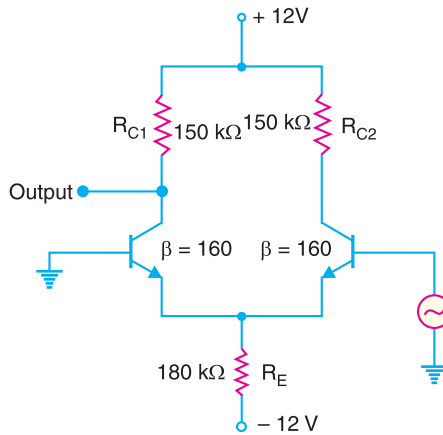

Fig. 25.100
- For the circuit shown in Fig. 25.100, determine (i) common-mode voltage gain (ii) differential-mode voltage gain (iii) CMRR. **[(i) 0.42 (ii) 90.6 (iii) 216]**